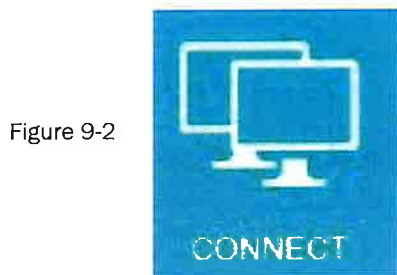

Figure 9-2
1. Click on 'Connect' Located in the top blue bar. (Figure 9-2)